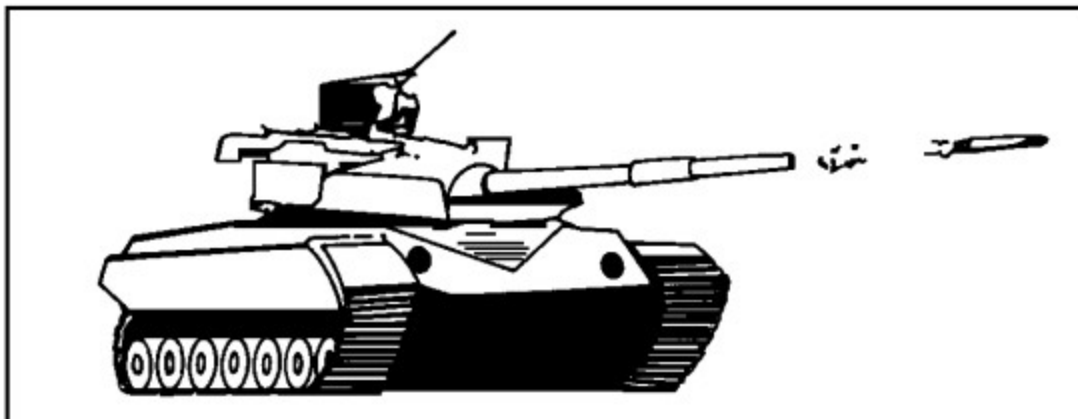

Figure 2-12. Antitank Guided Missile AT-8/SONGSTER.
g. Antitank Guided Missile AT-8/SONGSTER. The AT-8/SONGSTER (shown in Figure 2-12) is discussed in the following paragraphs. The identification in the Soviet arsenal of an innovative (or even simply unconventional) weapon system with no direct counterpart in Western practice is almost certainly bound to spark